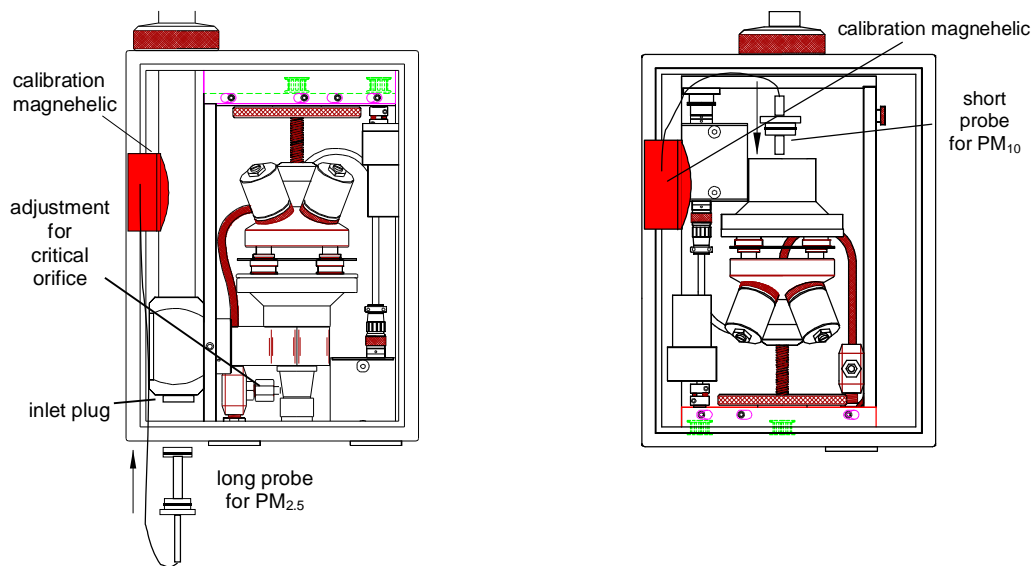

Figure 3.1. Insertion of calibration probe in PM_{2.5} and PM₁₀ modules.
- D. Flow calibration device for the PM_{2.5} and PM₁₀ modules (See Figure 3.1.)
4. Insert the probe in the base of the PM_{2.5} inlet or in the top of the PM₁₀ inlet manifold, as shown in Figure 3.1.